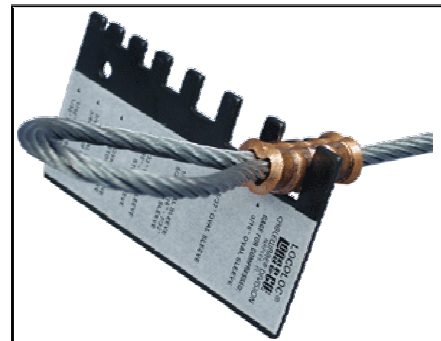

FIGURE 4
5. USE SWAGING GAUGE PROVIDED WITH THE TOOL TO CHECK PROPER AFTER-SWAGE DIAMETER (SEE FIGURE 4). COMPRESSED SLEEVE SHOULD SLIDE FREELY INTO SIZE SLOT OF GAUGE.